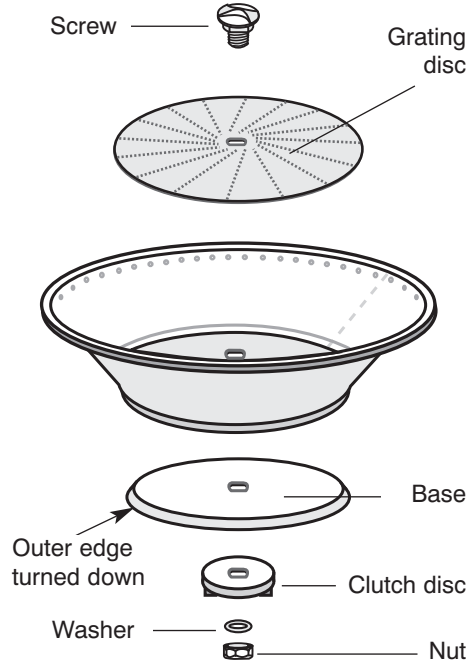

Fig. 9
- **For a periodic deep-cleaning** you can disassemble the parts of the basket by unscrewing the nut under the basket (Fig. 9).
To disassemble the parts of the basket, hold the basket still with one hand and unscrew the nut with a pipe wrench number 13 (Fig. 9). Pull the screw out of the basket.
Reassemble in reverse order (Fig. 9) and make sure that the base of the basket is mounted with the outer edge turned down. **To reassemble the parts of the basket** tighten the screw to the nut with a pipe wrench number 13. Ensure that the parts are tightly attached to one another.